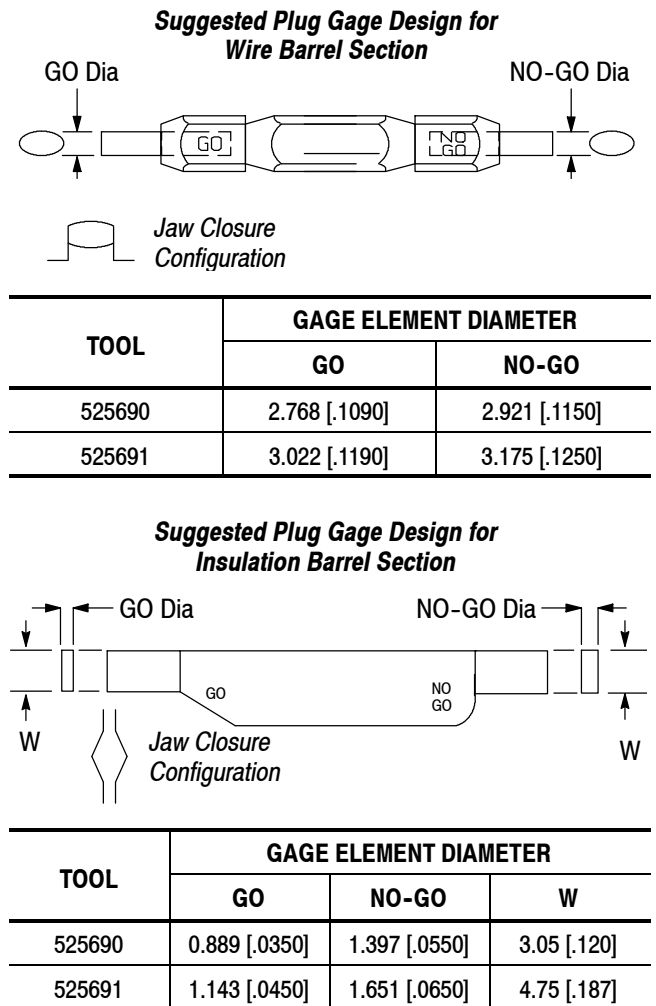

Figure 7
This inspection requires the use of plug gages conforming to the dimensions provided in Figure 7. To gage the crimping chamber, proceed as follows:
- Added a “W” Dimension to Figure 7